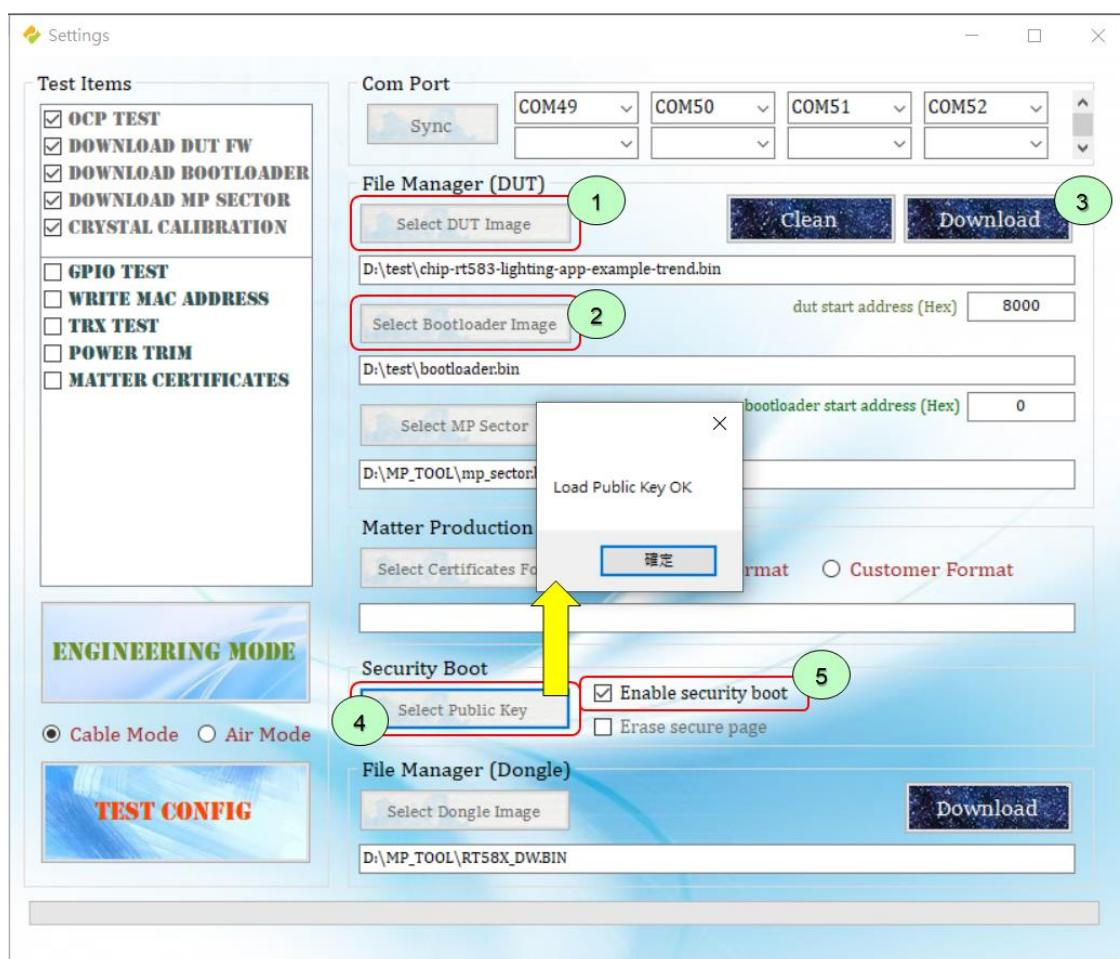
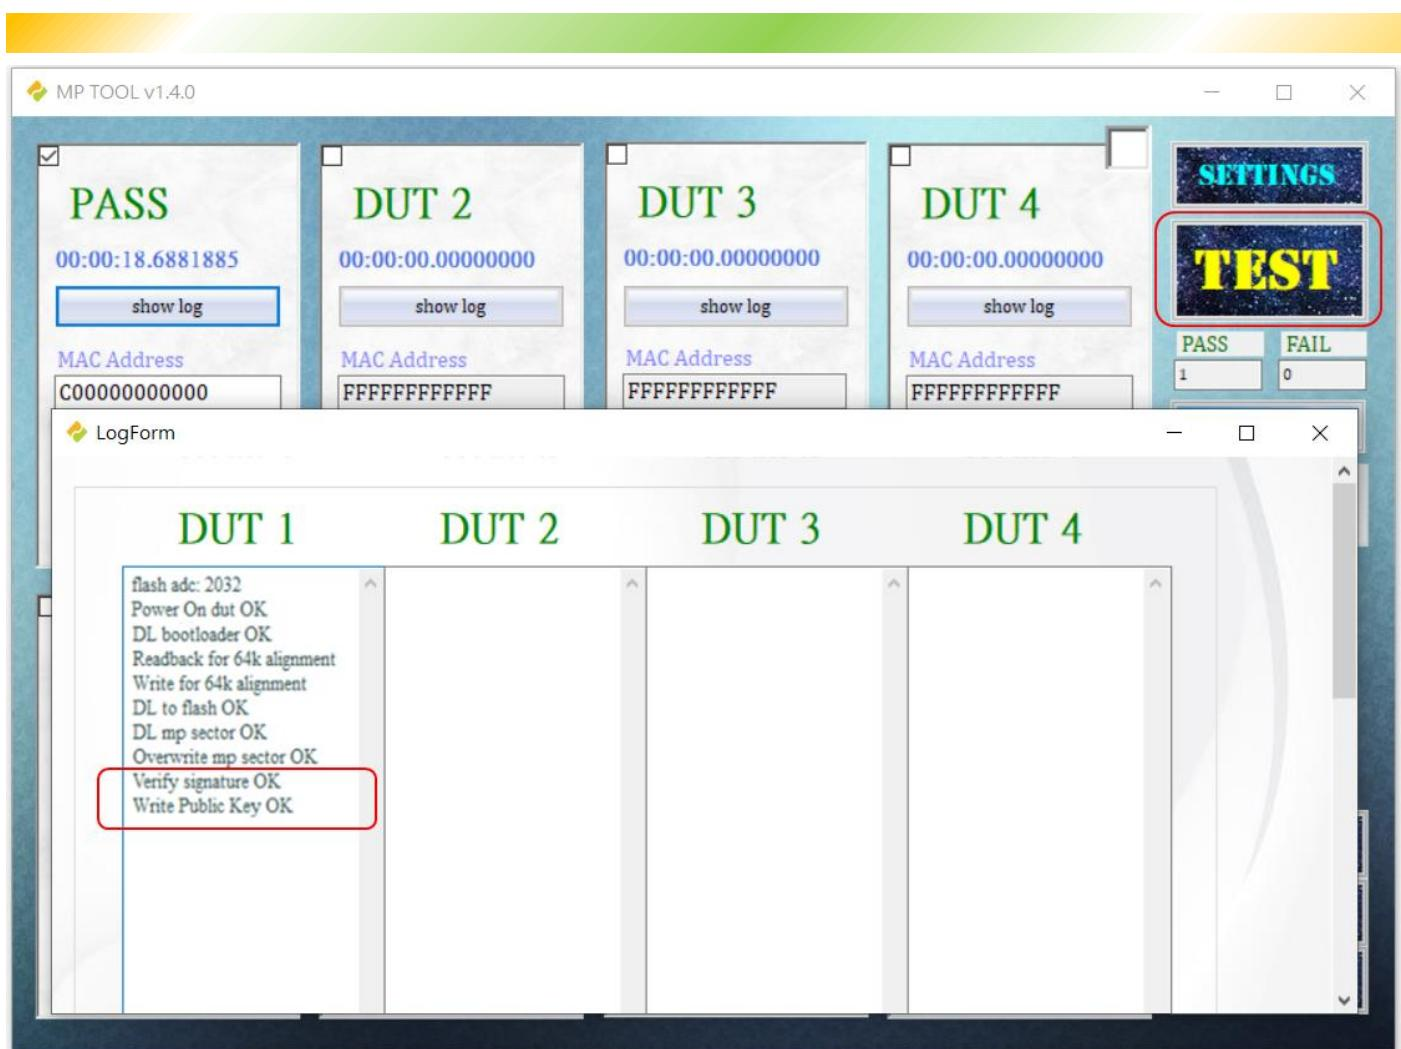

Figure 26. Security Boot Setting
Figure 27. Security Boot Test Result
The operation procedure of security boot is explained below. Please refer to Figure 26 and Figure 27. If user wants to erase the secure page in flash, click the “Erase secure page” checkbox.
4. After completing the above steps, click “TEST” button to start MP test as shown in Figure 27. MP Tool will verify that the signature is valid.